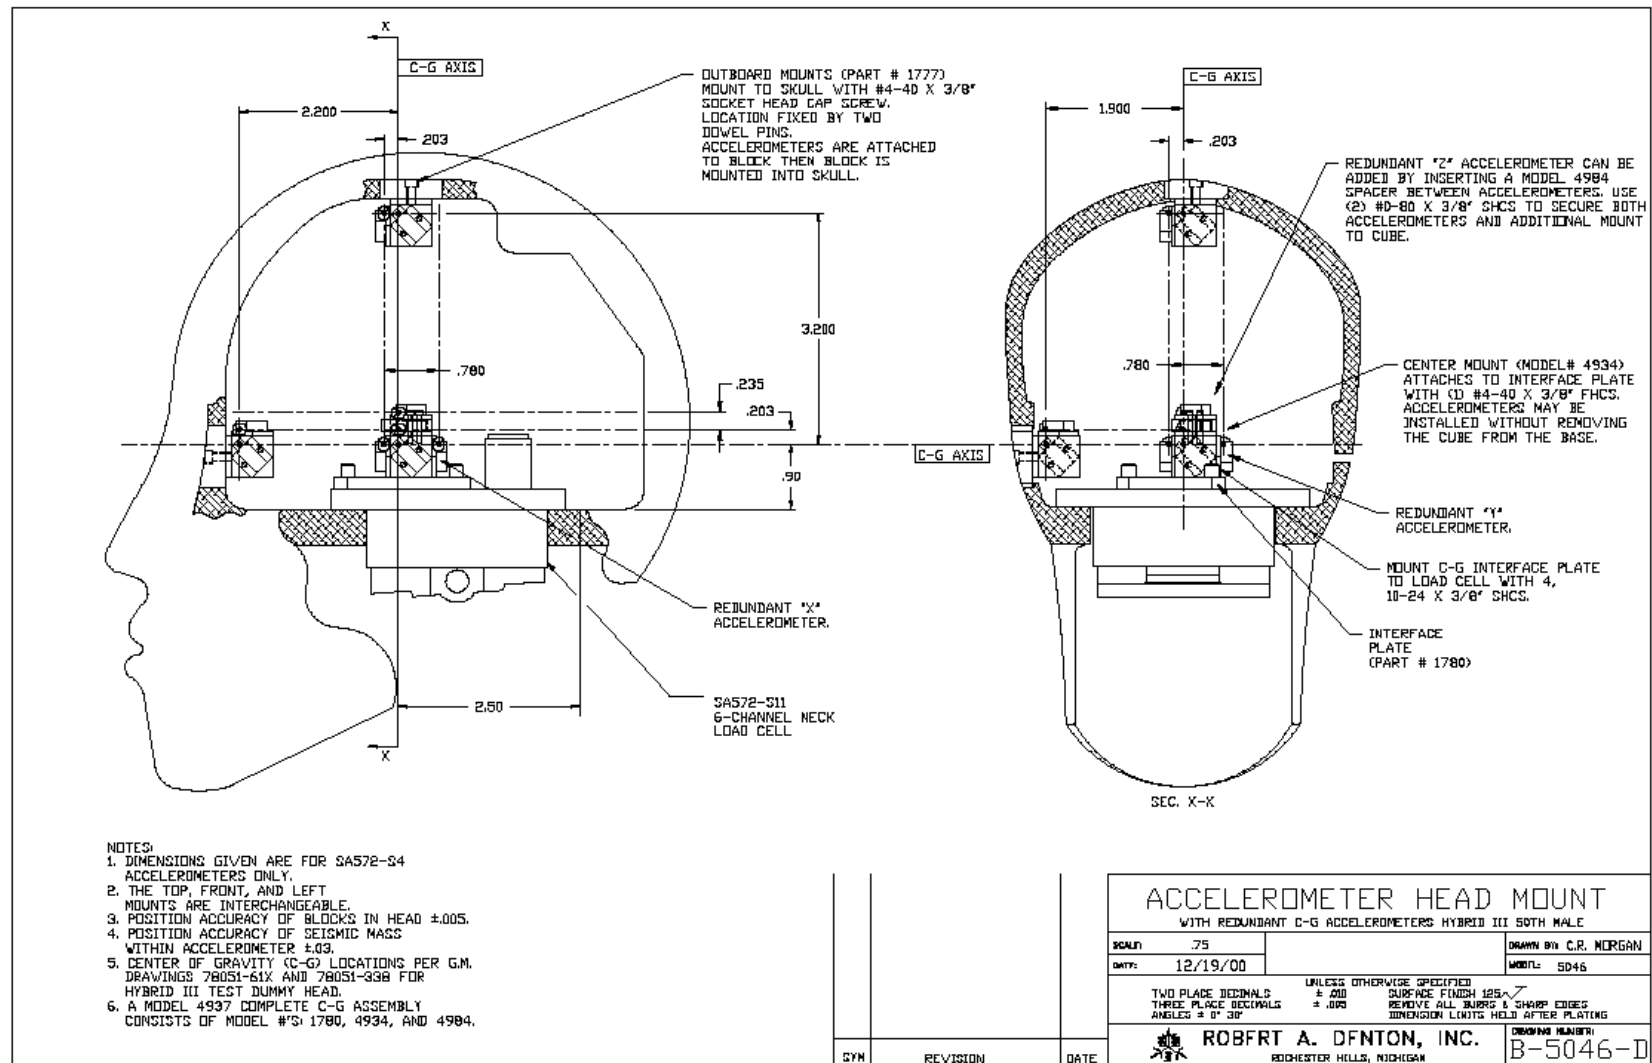
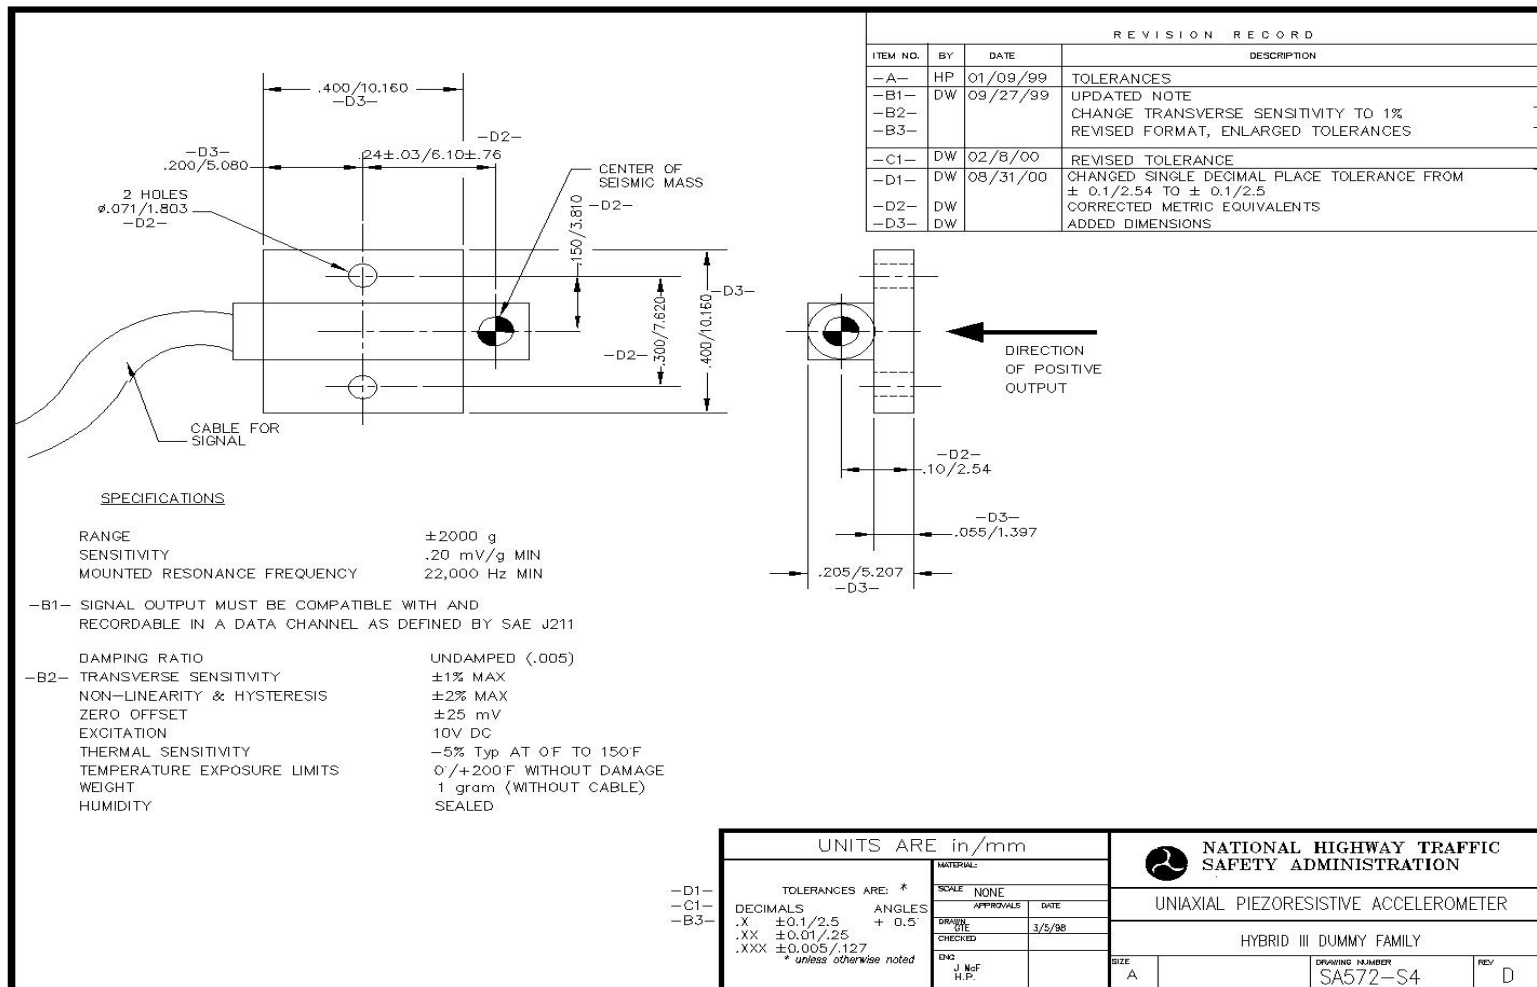
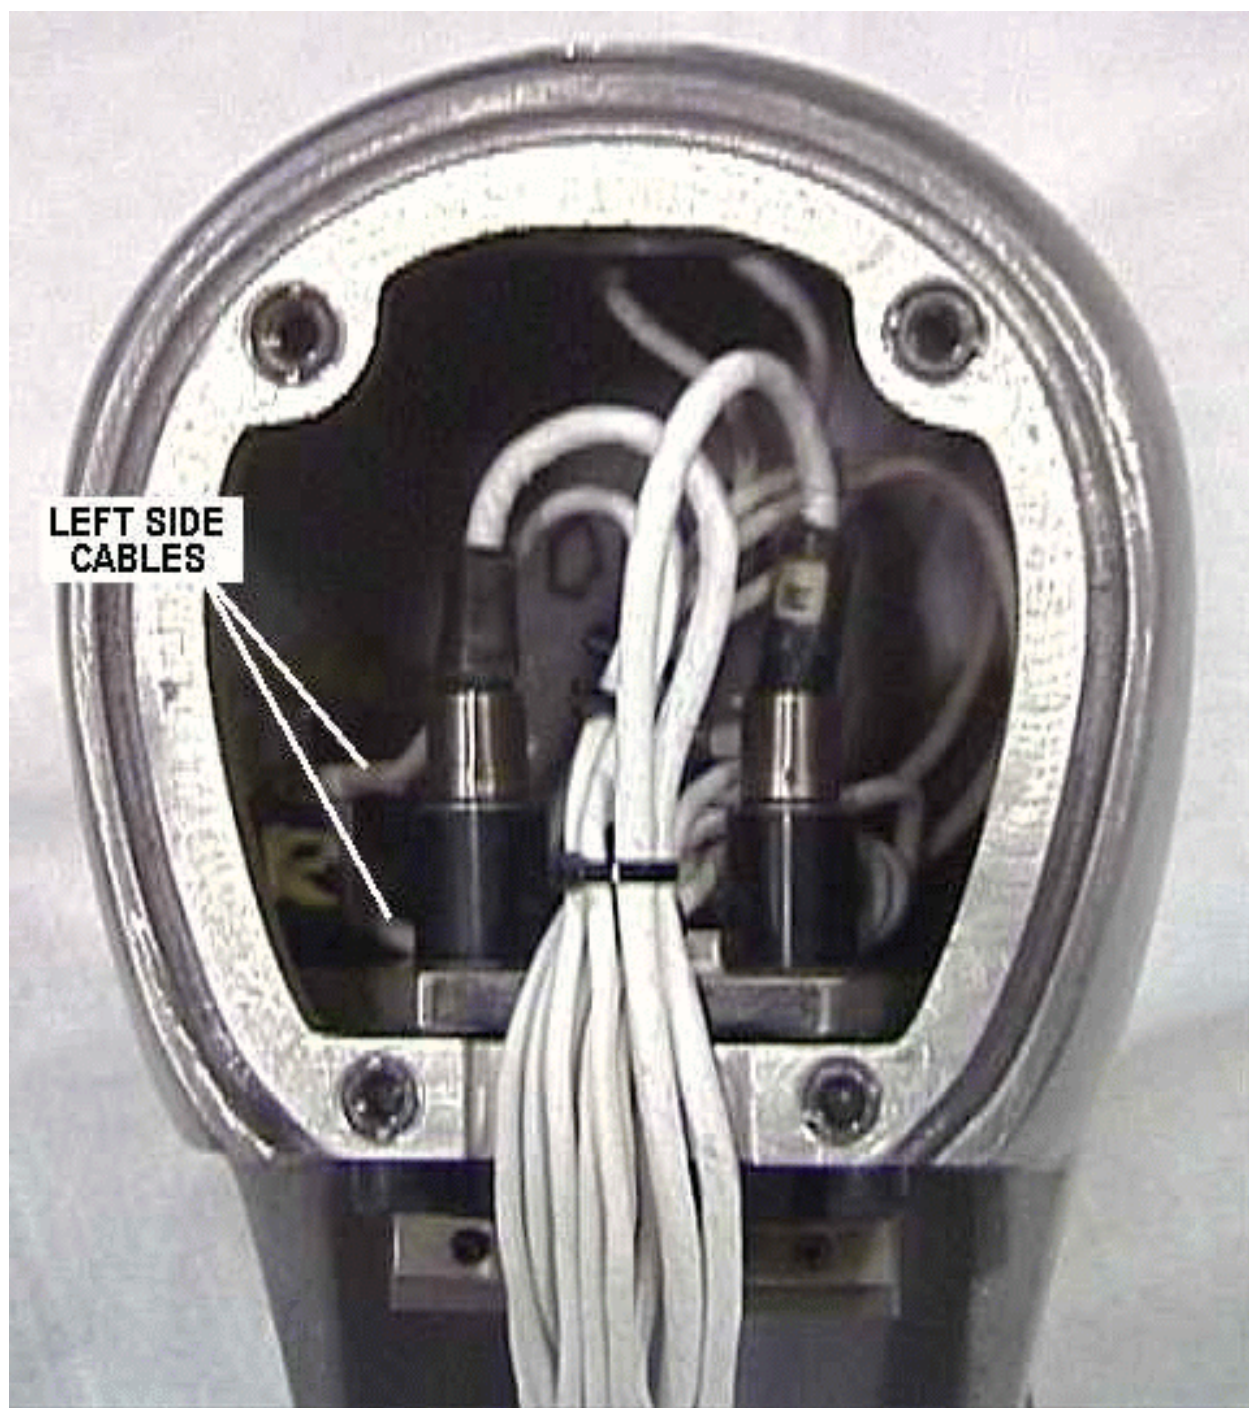

Figure 1.1 -- Nine Accelerometer Array Head With Redundant C.G. Accelerometers
Figure 1.2 -- SA572-S4 Uniaxial Piezoresistive Accelerometer
Figure 3.10 -- Nine accelerometers plus three c.g. redundant accelerometers and a load cell installed in skull
The National Highway Traffic Safety Administration has prepared this document under the title “Procedures for Assembly, Disassembly, and Inspection of the Hybrid-III 50th Percentile Nine Accelerometer Array Head with Redundant Head C.G. Accelerometers,” otherwise known as “PADI for the H-III50th NAAH With Redundant C.G. Accelerometers.” The document is based on drawings from Robert A. Denton, Incorporated. The NAAH With Redundant C.G. Accelerometers is depicted in Figure 1.1. Its size, weight distribution, and moment of inertia are that of an average 50th Percentile adult. This special head is used for assessing head injuries in motor vehicle crashes.
All parts in this procedure refer to Figures 1.1, 1.2, and to the drawing package specified in the Part 572 Subpart E. The part number for the nine accelerometer array head mount with redundant accelerometers is Denton Drawing No. B-5046-D dated 12/19/00. The accelerometers are Part Number SA572-S4 as specified in Figure 1.2. The weight and c.g. specifications are identical to those specified for the Hybrid III 50th Percentile Male Dummy head on GM drawings 78051-61X and 78051-338. Drawing copies for the Subpart E dummy can be obtained from Reprographics Technologies, 9000 Virginia Manor Road, Beltsville, MD 20705; Telephone (301) 210-5600.
The parts specific to the NAAH are included on the drawing in Figures 1.1 and 1.2. Some references are made to parts from the Hybrid III 50th percentile Part 572, Subpart E Dummy Drawings. These drawings are not included.
The nine accelerometer array with redundant c.g. accelerometers head construction consists of a modified Hybrid III 50th percentile skull (Figure 1.1) containing three mounting pads permanently inserted into the skull and the following parts which can be disassembled from the skull:
- a. Removing from the head the upper neck load cell structural replacement (Drawing 78051-383X), outboard mounts (Part No. 1777) and c.g. assembly (Model No. 4937, Figure 1.1)
1. Remove the skull cap/skull cap skin assembly (Drawings 78051-221/ 78051-229) by taking out the four 1/4 - 20 x 5/8" SHCSs that hold the skull cap to the skull to expose the accelerometer head mount with redundant c.g. accelerometers as shown in Figure 1.1.
3. Remove the left outboard accelerometer mount (Part No. 1777, Figure 1.1) from the dummy head by removing the #4-40 x 3/8" SHCS from the left outer side of the skull (Figure 1.1).
- a. Attach two accelerometers (Part No. SA572-S4, Figure 1.2) in the X and Z directions to the left outboard mount using #0-80 UNF x 1/8" SHCS in accordance with Figure 1.1. Orient the accelerometers per Figure 1.1 and Table 2.1. Label the accelerometer wires "X and Z left."
- a. If using an SA572-S11 upper neck load cell remove the c.g. assembly (Model No. 4937, Figure 1.1) from the load cell structural replacement (Drawing 78051- 383X) by removing the four #10-24 x 3/8" SHCSs attached to the interface plate (Part No. 1780).
5. Remove the front outboard mount (Part No. 1777, Figure 1.1) by removing the #4-40 x 3/8" SHCS from the front outer surface of the head.
- a. Attach two accelerometers (Part No. SA572-S4, Figure 1.2) in the Y and Z directions to the front outboard mount using #0-80 UNF x 1/8" SHCSs in accordance with Figure 1.1. Orient the accelerometers per Figure 1.1 and Table 2.1. Label the accelerometer wires "Y and Z front."
6. Remove the top outboard mount (Part No. 1777, Figure 1.1) by removing the #4-40 x 3/8" SHCS from the top outer surface of the head.
- a. Attach two accelerometers (Part No. SA572-S4, Figure 1.2) in the X and Y directions to the top outboard mount using #0-80 UNF x 1/8" SHCSs in accordance with Figure 1.1. Orient the accelerometers per Figure 1.1 and Table 2.1. Label the accelerometer wires "X and Y top."
7. Install the front and top outboard mounts (Part No. 1777, Figure 1.1) with accelerometers to their corresponding permanently fastened pads in the front and top of the skull. Note that the mounts can be installed on the pad dowel pins in only one way for the # 4-40 screw to properly align the mount to the pad. Also, note that these outboard mounts are made of aluminum and are subject to internal thread stripping.
- b. Make sure the accelerometers are properly oriented as per Figures 1.1, 3.2, 3.3, and Table 2.1.
8. Install the six accelerometers (Part No. SA572-S4, Figure 1.2) in the X, Y, and Z directions on the c.g. assembly (Model No. 4937, note 6 on Figure 1.1) on the upper neck load cell (SA572-S11) or load cell structural replacement (Drawing 78051- 383X) after assembling the mounts as described below.
- a. If not already in place, attach the center mount (Model No. 4934, Figure 1.1) to the interface plate (Part No. 1780, Figure 1.1) by accessing the #4-40 x 3/8" FHCS on the bottom of the interface plate (Figure 3.5). Note that the center mount can be installed on the interface plate in only one way for the # 4-40 screw to properly align the mount to the interface plate. Also, note that the center mount is made of aluminum and is subject to internal thread stripping.
- b. Attach the interface plate (Part No. 1780, Figure 1.1) and center mount (Model No. 4934, Figure 1.1) to the upper neck load cell SA572-S11 or structural replacement (Drawing 78051- 383X) with four #10-24 x 3/8" SHCSs. Two locator pins assure proper alignment of the interface plate on the load cell or load cell structural replacement. The interface plate has clearance spaces for the accelerometer cables so that the thru holes in the accelerometer can be aligned with the #0-80 UNF holes in the center mount. (Figures 3.5 and 3.6). A perspective view of the assembly is shown in Figure 3.7.
- c. Attach four accelerometers (Part No. SA572-S4, Figure 1.2) in the X and Y directions using #0-80 UNF x 1/8" SHCSs, and two accelerometers (Part No. SA572-S4, Figure 1.2) in the Z direction to the center mount (Model No. 4934, Figure 1.1) using the "U" shaped spacer (Model No. 4984, Figure 1.1) and two #0-80 UNF x 3/8" SHCSs. Orient the accelerometers per Figures 1.1 and 3.8, and Table 2.1. Label the accelerometer wires "Head X Center, Head Y center, Head Z Center, Head X Redundant, Head Y Redundant, Head Z Redundant."
9. Install the SA572-11 upper neck load cell or load cell structural replacement (Drawing 78051- 383X) with its c.g. and redundant mounted accelerometers (Part No. SA572-S4, Figure 1.2) in the dummy head by completing the following task.
10. Install the outboard mount (Part No. 1777) with accelerometers by attaching a #4-40 x 3/8" SHCS from the left outer surface of the head. Note that the mount can be installed on the pad dowel pins in only one way for the # 4-40 screw to properly align the mount to the pad. Also, note that the outboard mount is made of aluminum and is subject to internal thread stripping. Attach the load cell cables to the load cell if they are not already connected. The installation is pictured in Figure 3.10. The orientation of the accelerometers should agree with Figure 1.1 and Table 2.1.
The outboard mounts (Part No. 1777, Figure 1.1) and center mount (Model No. 4934, Figure 1.1) used to hold accelerometers are made of aluminum and are subject to internal thread stripping. During disassembly they should be inspected and replaced if needed.